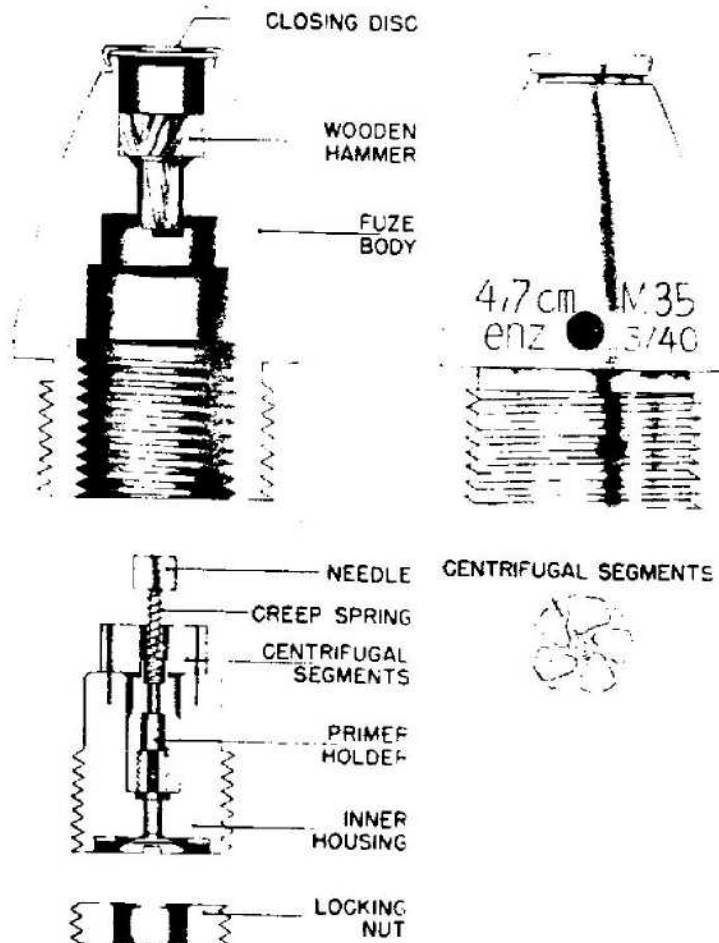

Figure 573—M35 enz. 3/40
**EMPLOYMENT:** Czech nose fuze used in German 4.7-cm ammunition. (See fig. 573.)